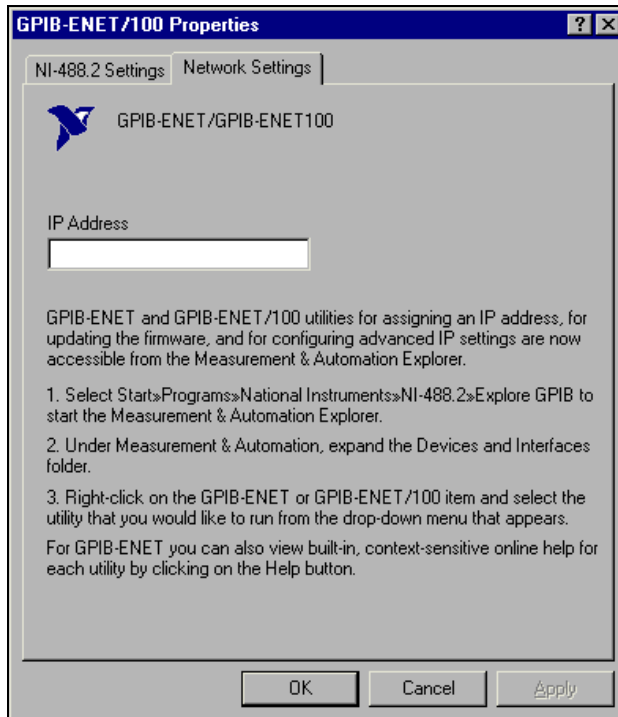

Figure 4-1. Network Settings Tab
- b. Type the IP address or hostname that you recorded in step 4 in the **IP Address** field, as shown in Figure 4-1.